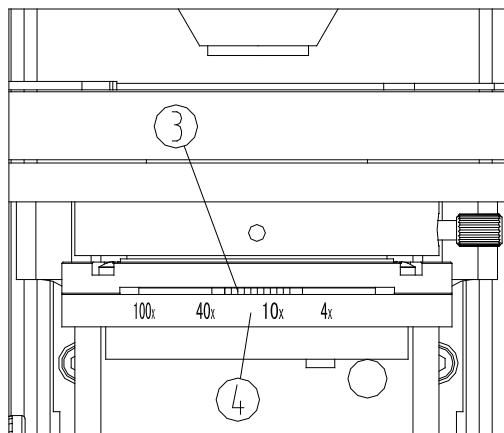

Fig. 13
Increase or decrease the opening of the aperture diaphragm by rotating the condenser aperture diaphragm lever ③. When the aperture is closed, the brightness and resolution are decreased but the contrast and range of focus are increased. If the aperture diaphragm is opened, the brightness and resolution are increased; however, the contrast and range of focus are diminished. For optimal viewing conditions set the condenser aperture diaphragm lever to match the magnification of the objective in the optical path as shown on the front of the condenser ④ (Fig. 13).